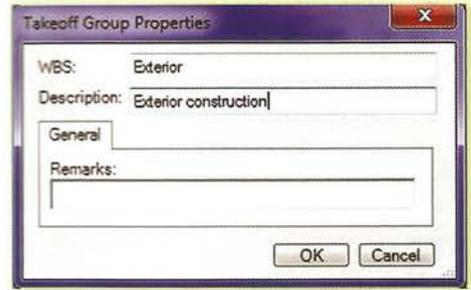

Fig 29: Group Rename
- Description = Exterior Construction (Figure 29)